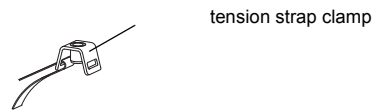

Fig. 9.35: Tension strap with tension strap clamp
- Insert approx. 100 mm of the tension strap into one of the slots of the tension strap clamp and bend it (see Fig. 9.35).